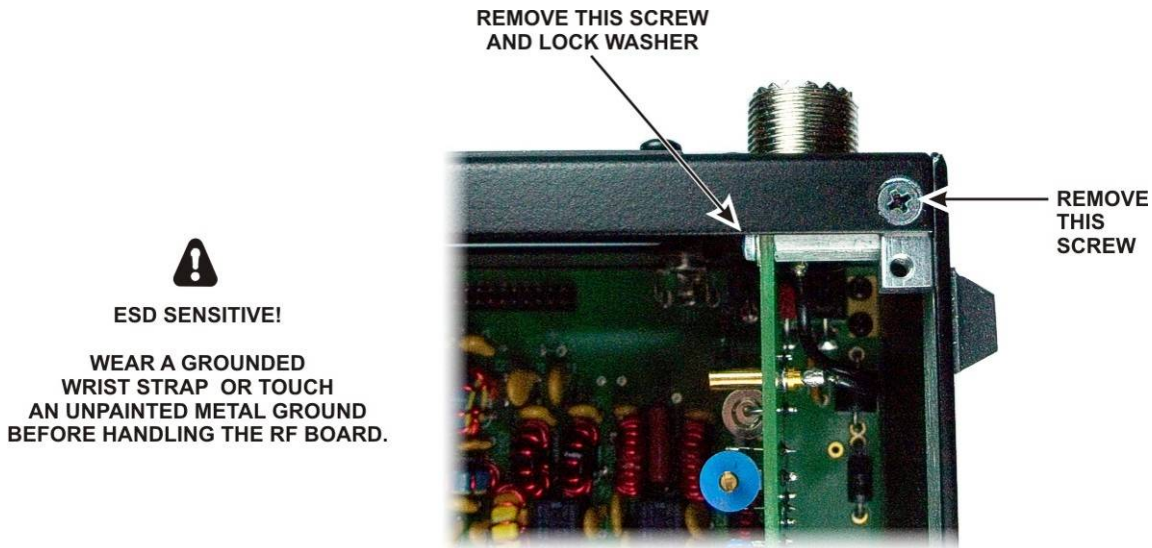
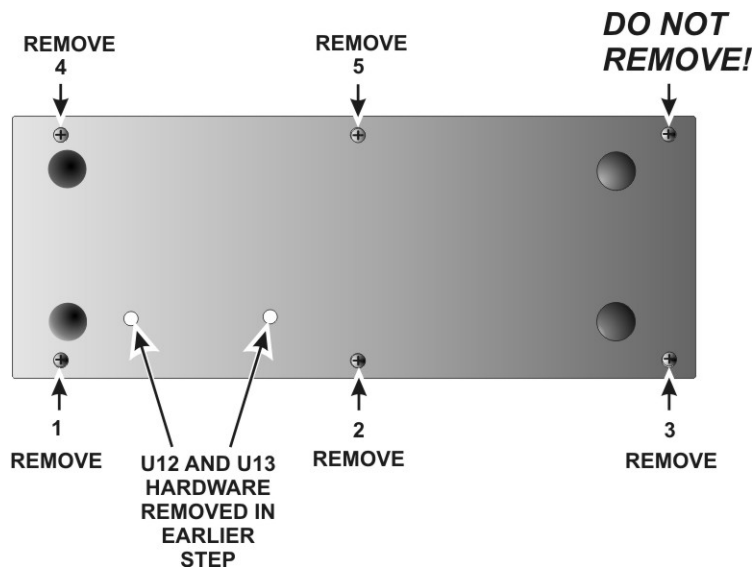

Figure 31. Removing Side Panel Hardware, Part 1.
Figure 32. Removing Side Panel Hardware, Part 2.
☐ Remove the screw holding the KANT3 (or, if installed, the optional KAT3) board to the standoff and the screw holding the 2D fastener to the rear panel near the SO239 antenna connector shown in Figure 31. Do not lose the lock washer inside the K3. It is easier to keep the hardware from falling inside if you set the K3 on its side feet and remove the screw and lock washer holding the KANT3 or KAT3 board first, then set it on its bottom feet and remove the flat head screw from the 2D fastener.
☐ Remove the five screws shown in Figure 32 from the right side panel to release it. Screw 5, which holds the end of the stiffener bar, already will be out if you're performing the initial installation of the KRX3A. The side panel will lift off with the 2D fastener and standoff shown in Figure 31 attached.
Replace the right side panel on the K3, installing the 4-40 3/16" flat head screws shown in Figure 32 except for screw number 5. It will be replaced later with the stiffener bar.
Replace the 4-40 1/4" (6.4 mm) zinc pan head screw and washer that holds the KAT3 board to the standoff as shown in Figure 31.
- Replace the 4-40, 3/16" (4.8 mm) black flat head screw that secures the back panel to the 2D fastener as shown in Figure 31.